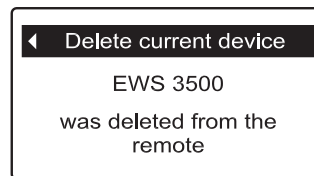

FIG. 127
5. Press the RIGHT (▶) button. The screen shown in Figure 127 will appear.